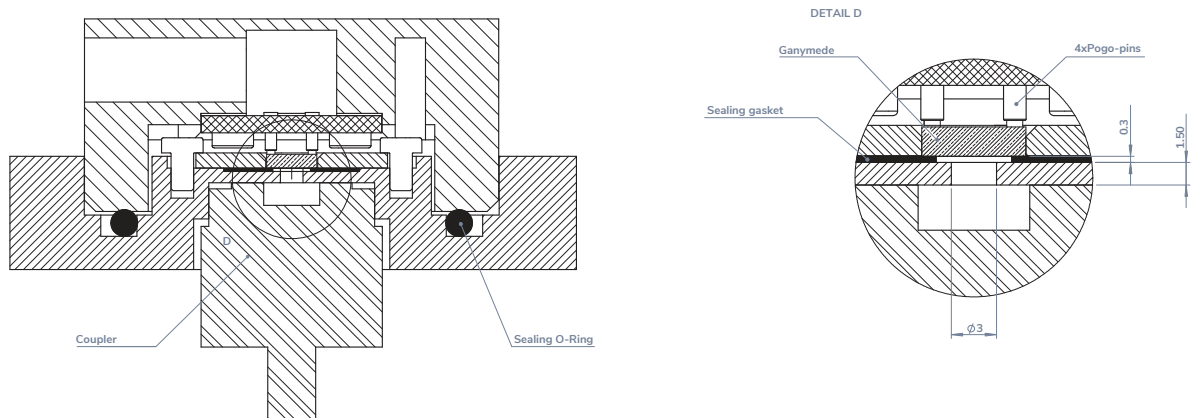

Figure 4: Coupler adapter cross-section. The outlet of the coupler for the speaker is round with a diameter of 3 mm, as shown in Detail D
*Red lines in figure 4 indicate the limits. Test limits are used to establish incoming inspection acceptance / rejection criteria, correlation of test equipment with USound is also required for elimination of equipment and test method variation.